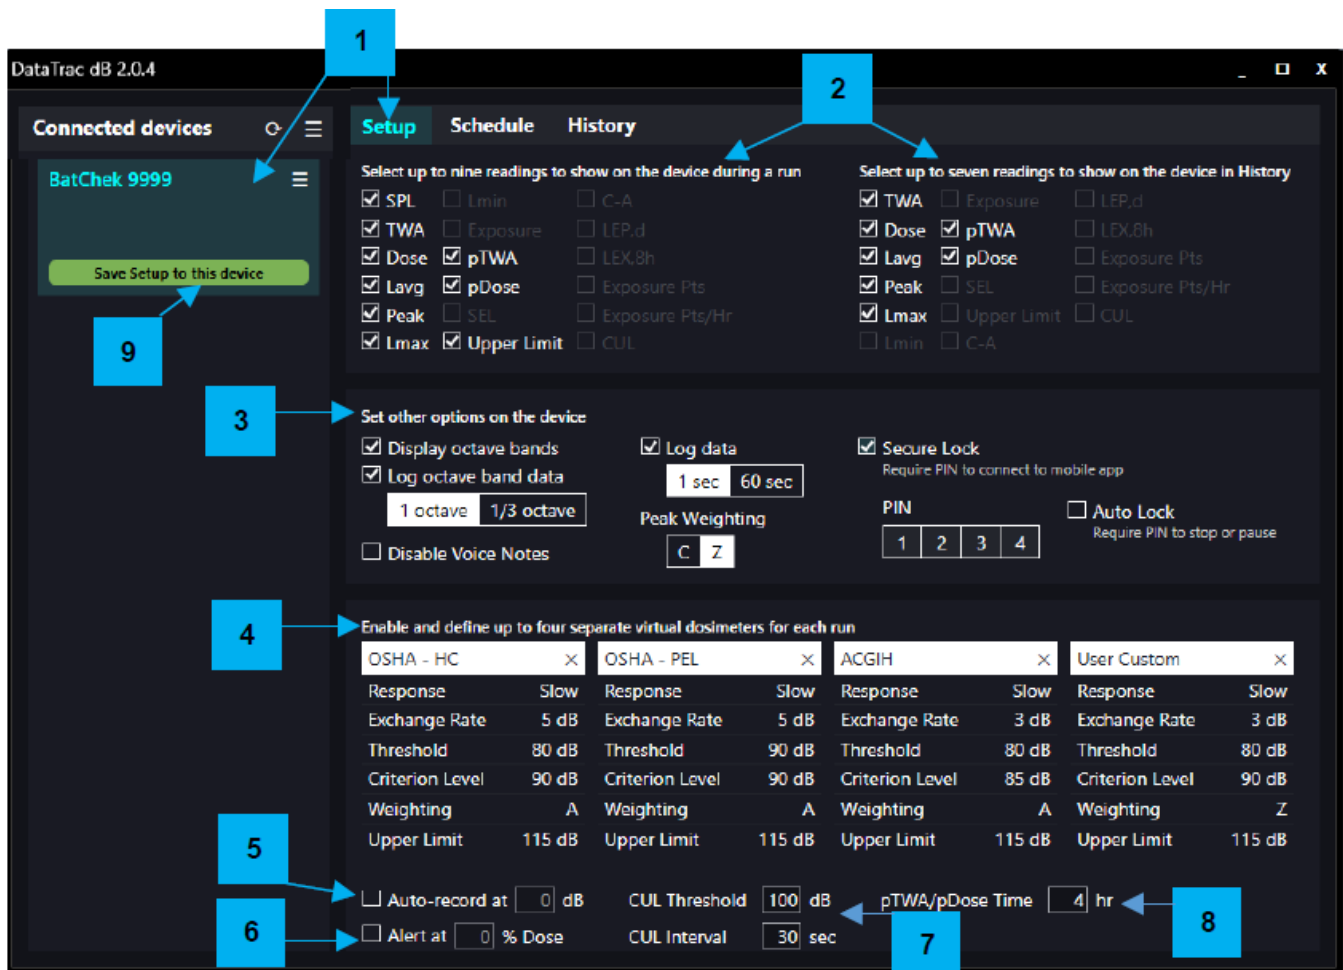

Figure 5. Setup
#### **Setup — Programming and Uploading Presets (Figure 5)**
**Note:** If the maximum number (nine or seven) is selected, the unselected readings will be grayed out as shown in Figure 5.